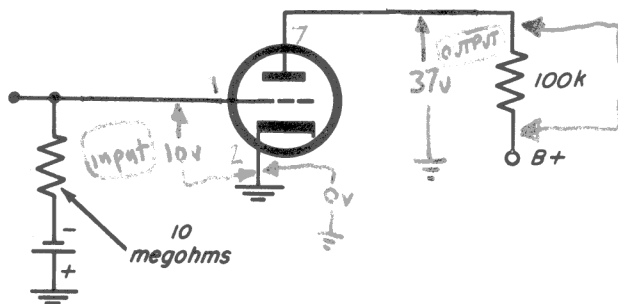

Fig. 23-6
Step 6. Check your work with the schematic shown in Fig. 23-6. If everything is correct, plug in the power cord and wait about 30 seconds for the tubes to warm up.